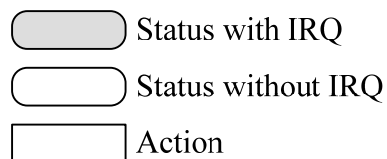

Fig 13-4 Flowchart Symbols
- The following flowchart takes Fig 13-4 indicated “Grey Bottom Round Block”, “White Bottom Round Block” and “Square Block” to indicate I2C interface status respectively: